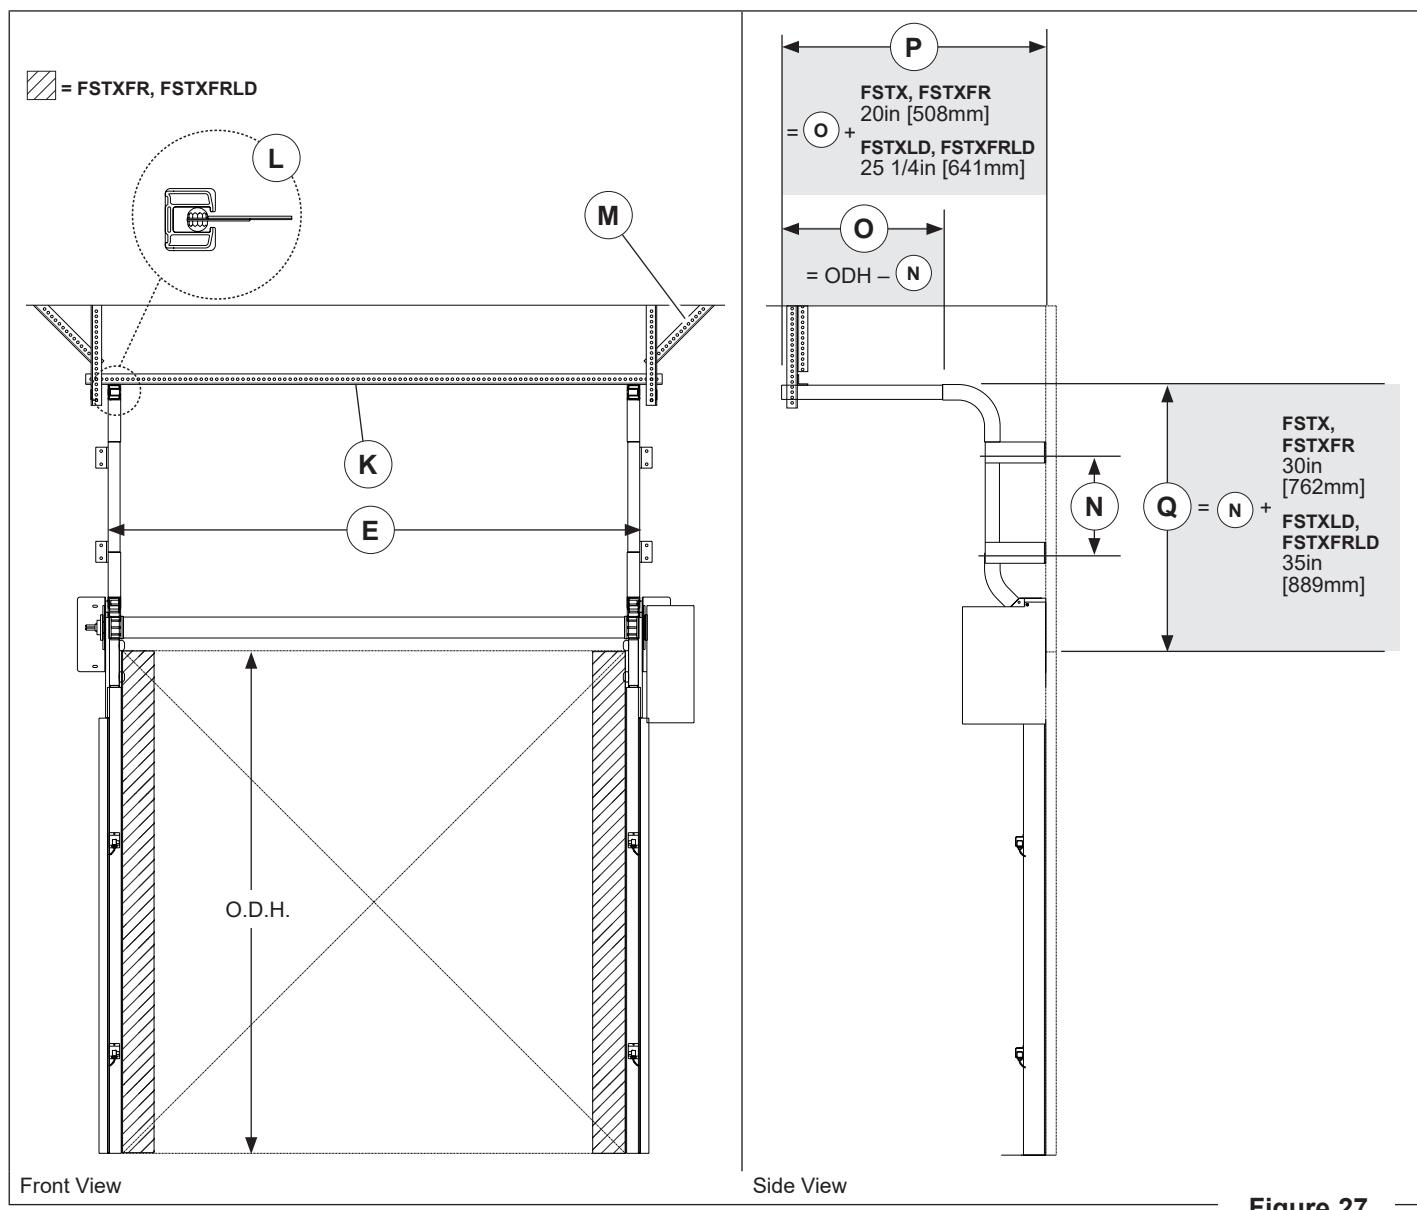

Figure 27
10. **CRITICAL:** Fasten punched angle (K) (Figure 27) bracing at the end of the track, maintaining proper spacing.
11. When curtain is raised later in installation, make sure spheres are centered in track groove (L), if too tight, move tracks in, if too loose spread tracks apart.
12. Fasten bracing to diagonal (M) provide support from track to ceiling or wall.
NOTE: If (N) is unknown, then Rite-Hite advises dimension to be a maximum of 1/2 O.D.H. (Figure 27).